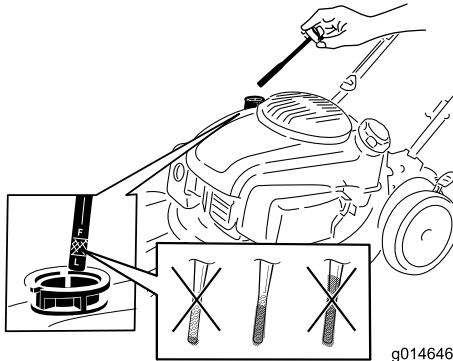

Figure 5
1. Remove the dipstick (Figure 5).
2. **Slowly** pour oil into the oil-fill tube until the oil level reaches the Full line on the dipstick (Figure 5). **Do not overfill.** (Max. fill: 0.53 L (18 oz), type: 10W-30 or SAE 30 detergent oil with an API service classification of SJ or higher.)
Note: Each time you check the oil level, remove the dipstick and wipe it clean, insert it into the oil filler neck (but **do not** screw it in), then remove it again and check the level (Figure 5).